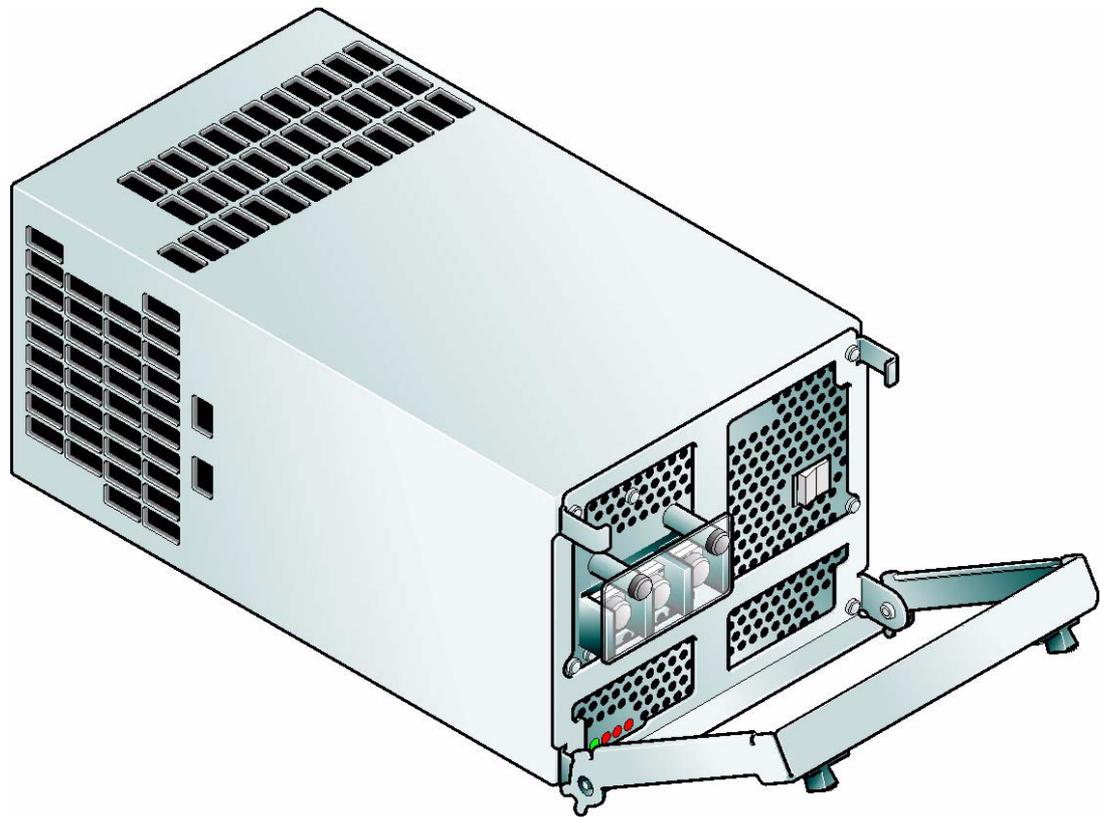

Figure 2-6 -48V PSU Module - Handle in Open Position
- 2 With the PSU handle (Figure 2-6) in the open position, slide the module into the enclosure.